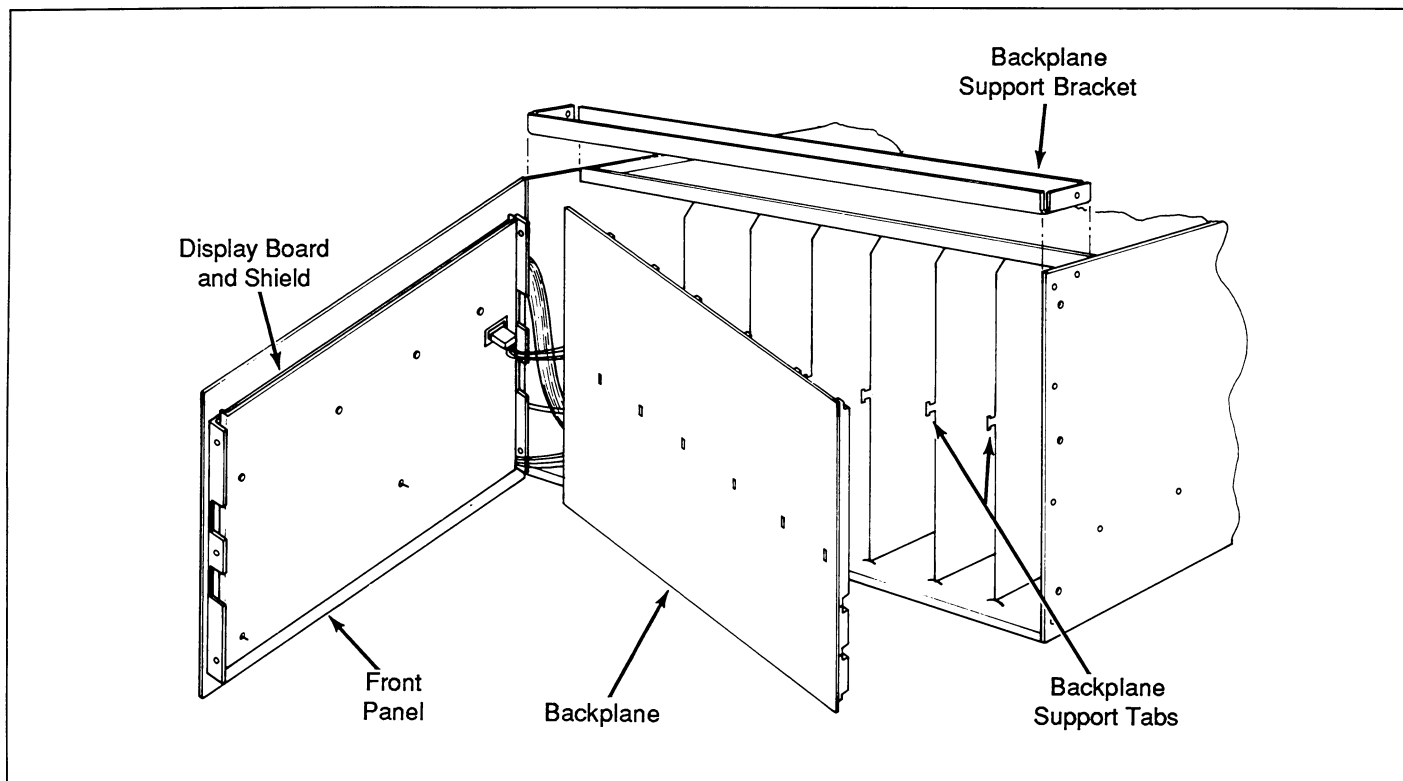

Figure 6-7. Front View of Disassembly
- E. Swing the front panel to the left and rest it on its edge as shown in Figure 6-7.
- A. Remove the backplane support bracket shown in Figure 6-7.